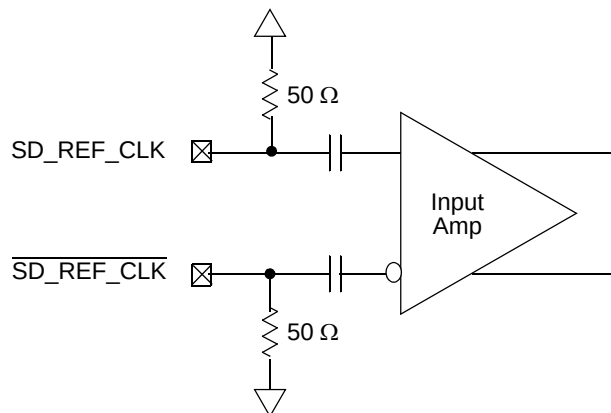

Figure 39. Receiver of SerDes Reference Clocks
Figure 39 shows a receiver reference diagram of the SerDes reference clocks.
- The SD_REF_CLK and $\overline{\text{SD_REF_CLK}}$ are internally AC-coupled differential inputs as shown in Figure 39. Each differential clock input (SD_REF_CLK or $\overline{\text{SD_REF_CLK}}$) has a 50- Ω termination to XCOREVSS followed by on-chip AC-coupling.